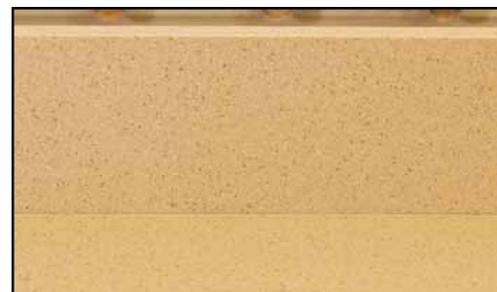

Figure 19A
- Apply continuous bead to bottom of backsplash (FIG. 19A).